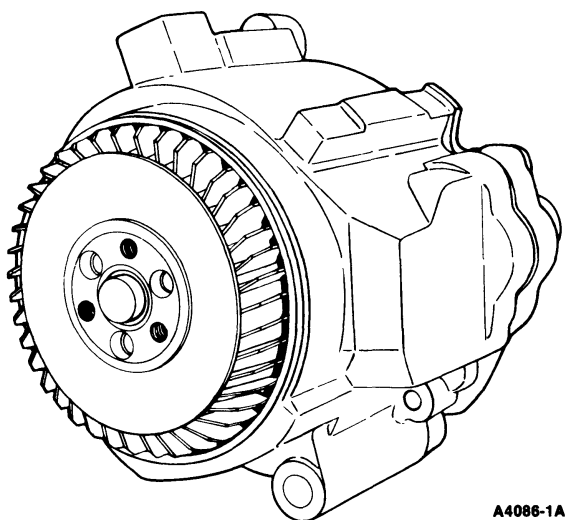

FIG. 3 Air Supply Pump
- Air supply pump (Fig. 3)
The belt driven air pump (Fig. 3) takes air in through an impeller-type positive-displacement centrifugal air filter fan, thus eliminating the need for a separate air filter. Dust and dirt particles cannot enter the pump because these heavier than air contaminants are thrown from the air intake by centrifugal force.